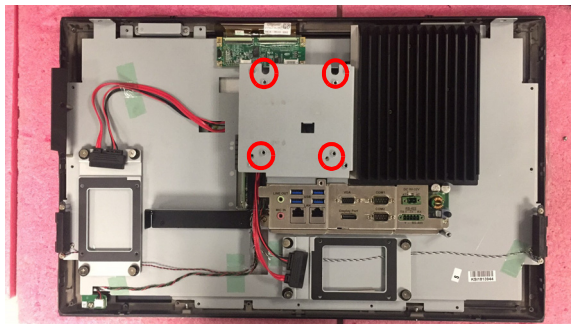

Figure 2.14
1. Follow the procedures in Section 2.3 to remove the rear cover and strength-plate. (See Fig 2.14)